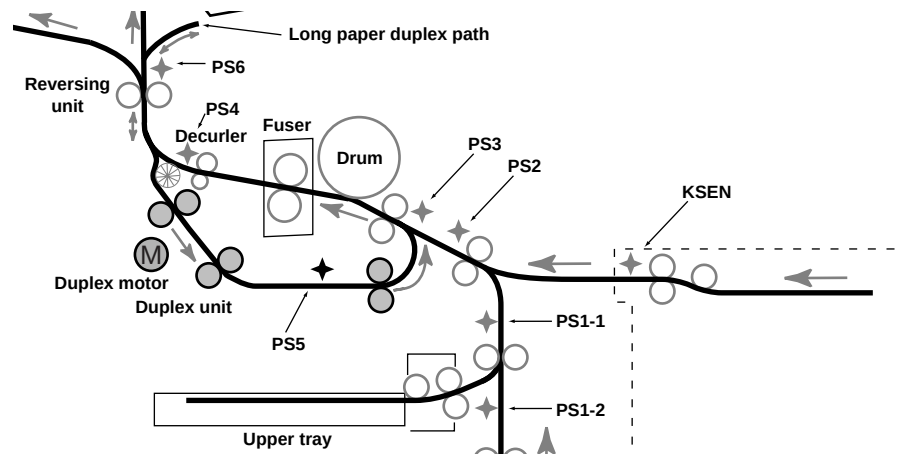

Figure 2-39 Duplex Motor System
- The sheet is transported back to the registration rollers at a faster speed of 630 mm/sec (see Figure 2-39).